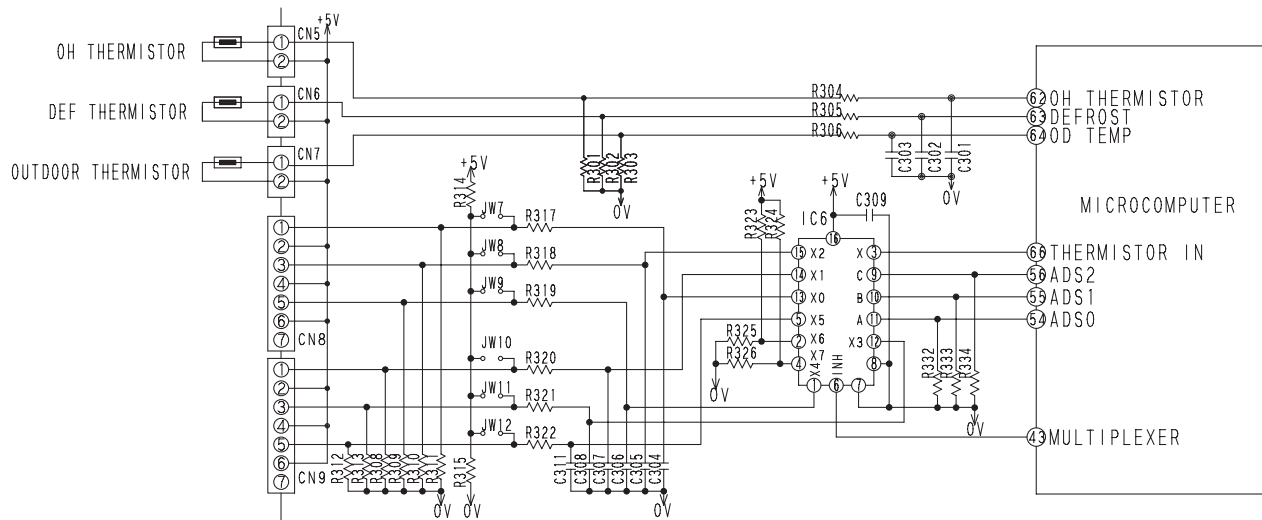

Fig. 10-1 Temperature Detection Circuit
- The circuit of the thermistors is shown as Fig. 10-1 for model RAS-70YHA1/RAS-80YHA1, and their roles and temperature measuring points are shown as Table 10-1.